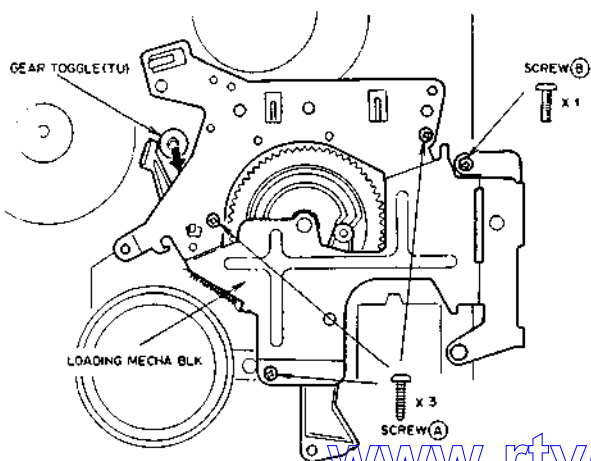

Fig. 4-13
9) Attach the LOADING MECHA. BLK with holding the GEAR TOGGLE (TU) in the direction of the arrow as shown in Fig. 4-13. Tighten the LOADING MECHA BLK with four screws (A) and (B).